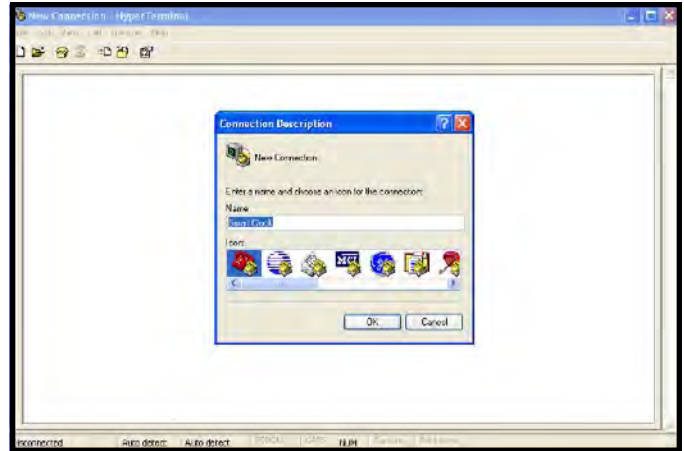

Figure 100. Windows Hyperterminal Communication Program
- VII. Windows HyperTerminal Communication Program will open. Type in any name at the "Connection Description" window then click the "OK" button (see Figure 100).